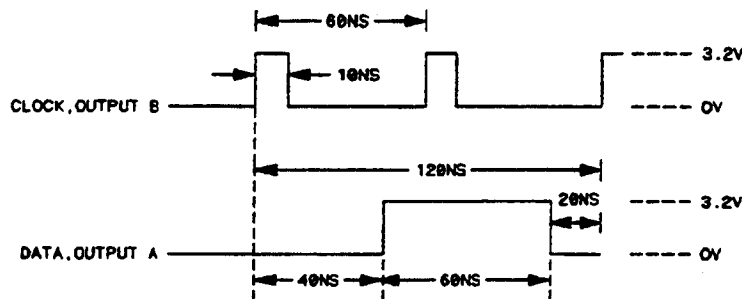

Figure 3-30. Pulse Generator Waveform For Test 7
2. Set the pulse generator as follows for the output shown in figure 3-30.